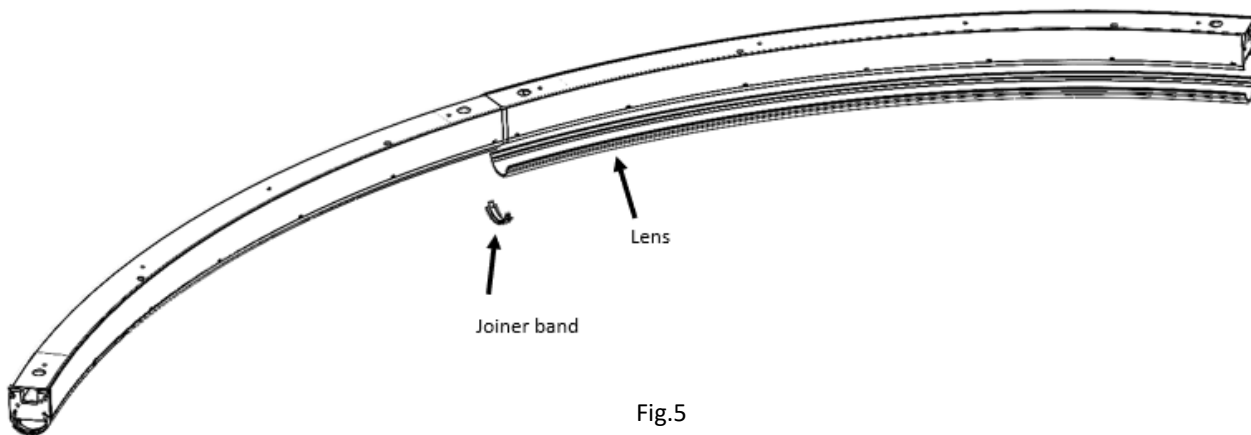

Fig.5
- 5 Snap in lens and then joiner bands (Fig. 5 & 6)